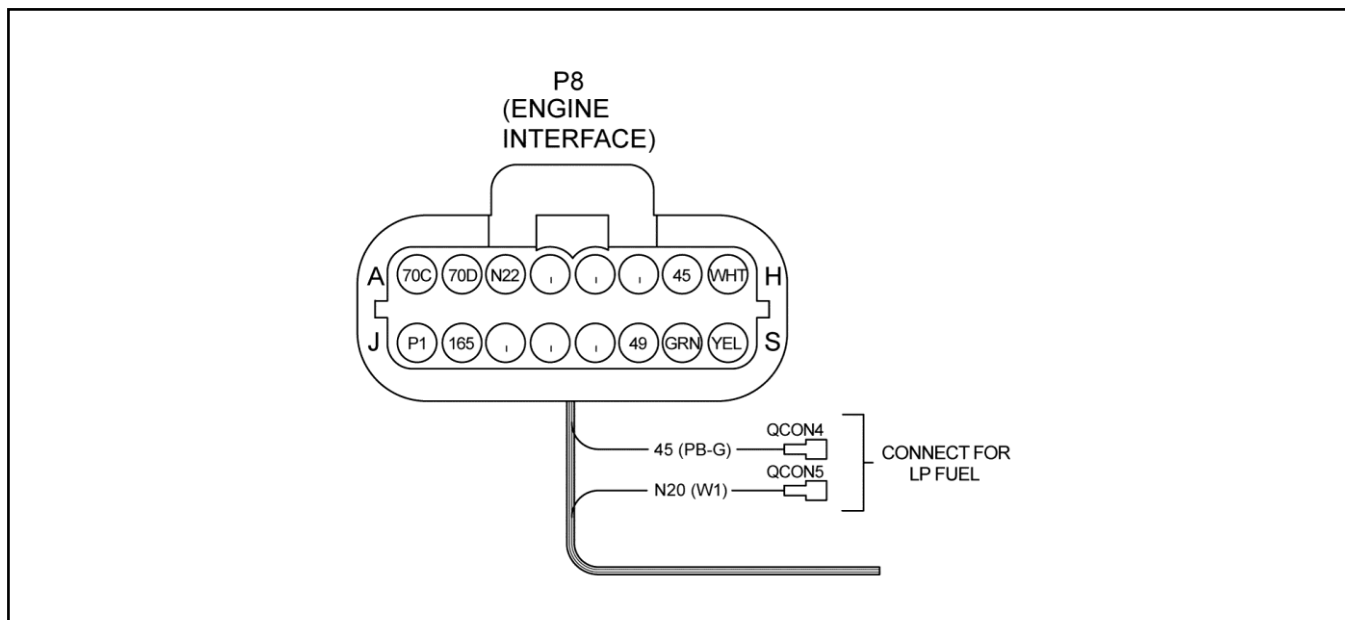

Figure 24 Wiring Harness
2. **For LPG fuel only**, connect wire N20 from the fuel pressure regulator to wire 45 from the ECM wiring harness using the quick-connect adapters. See Figure 24.
3. Disconnect wire N20 and wire 45. See Figure 24.